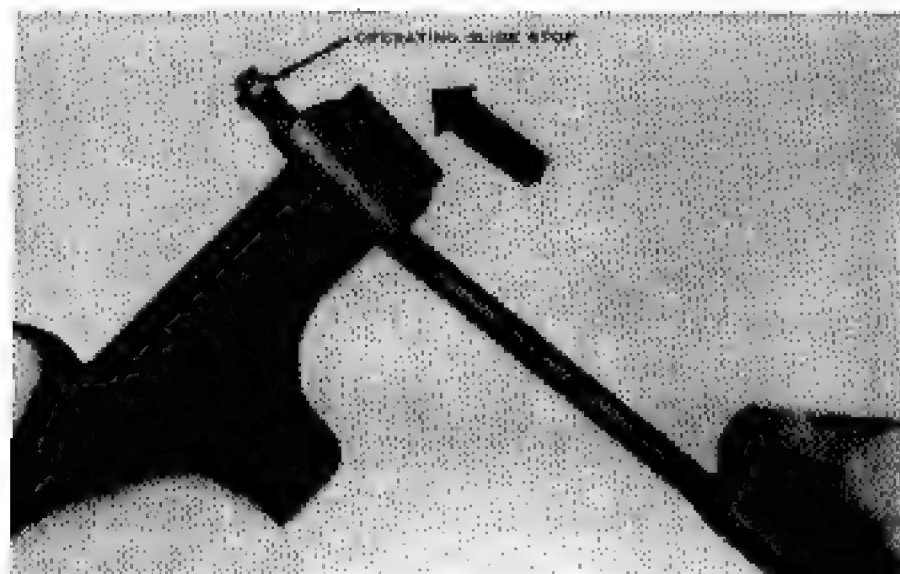

Figure 32. Removing the operating slide stop.
- a. Grasp the operating slide as shown in Figure 32. Using the operating slide spring guide, push out the operating slide stop, small end first.